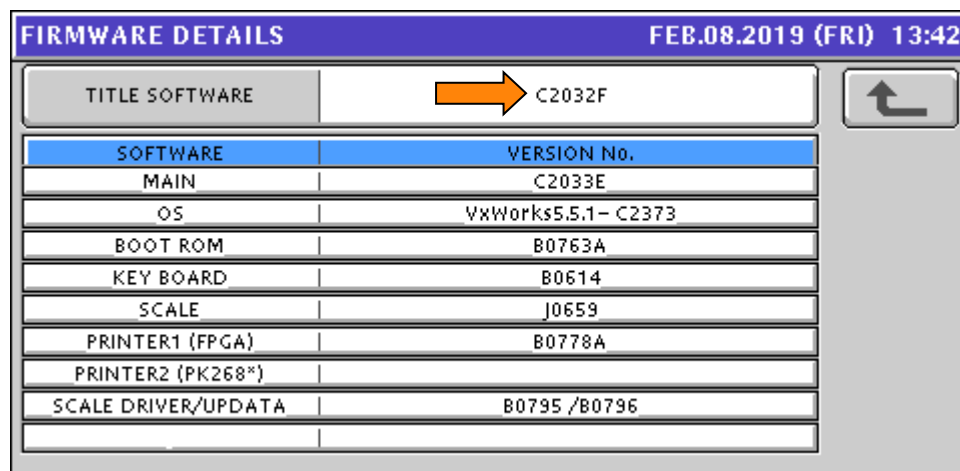

Figure 40. Firmware Details Screen
*Example: C2032F. See Figure 40.*